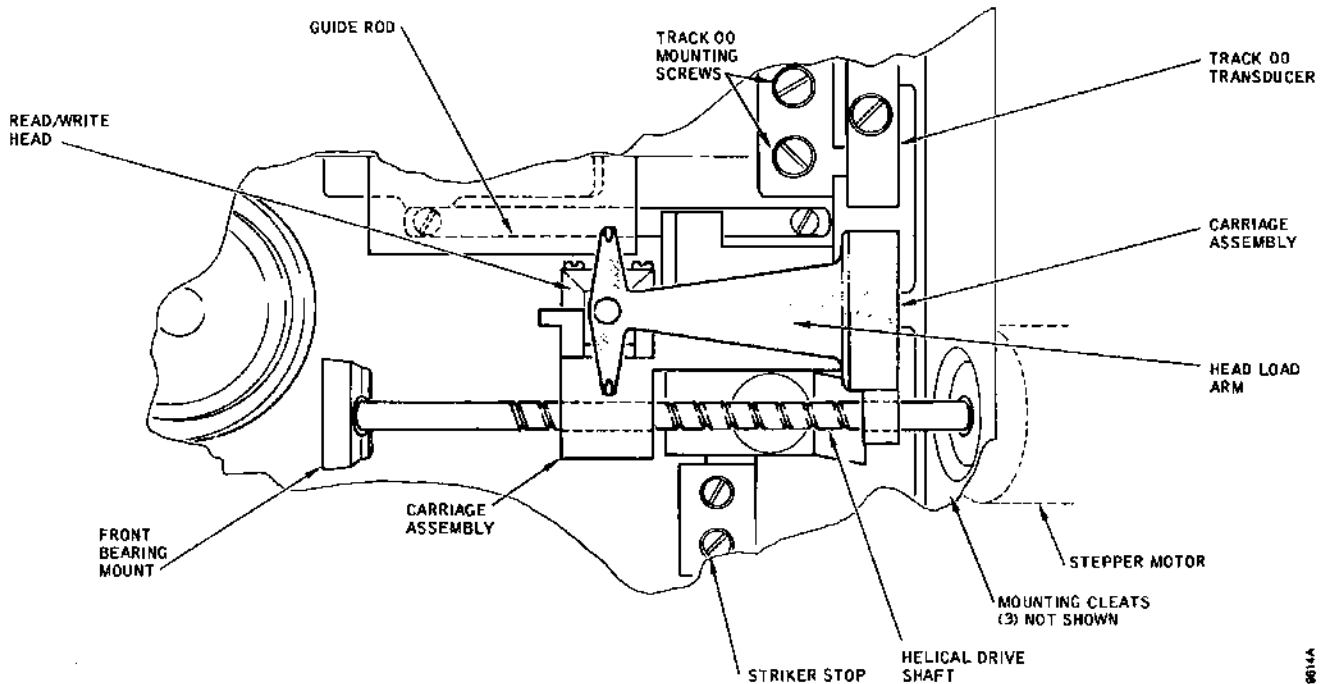

Figure 4-10. Positioning System Component Identification
The positioning system comprises a stepper motor, head carriage assembly, and track 00 transducer (see Figure 4-10).
3. Remove the screw near the front bearing from the helix shaft (see Figure 4-10).